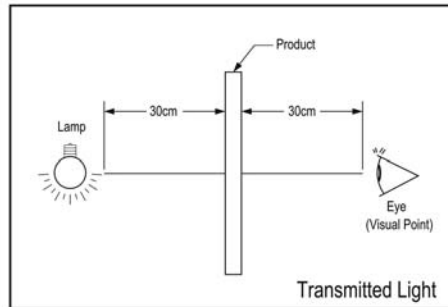
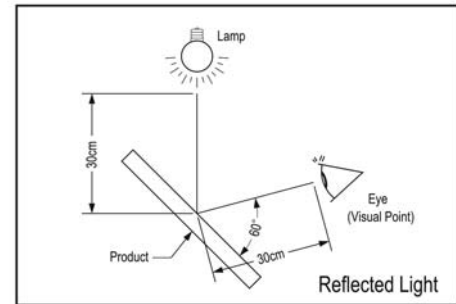

Figure 11-1
Figure 11-2
(1) 18W(1000±500Lux) fluorescent luminant lamp is used for appearance inspection. Detail settings are shown in (Fig 11-1) and (Fig 11-2).
(2) Minor impurities outside active area are acceptable unless their existence affect electrical functions.